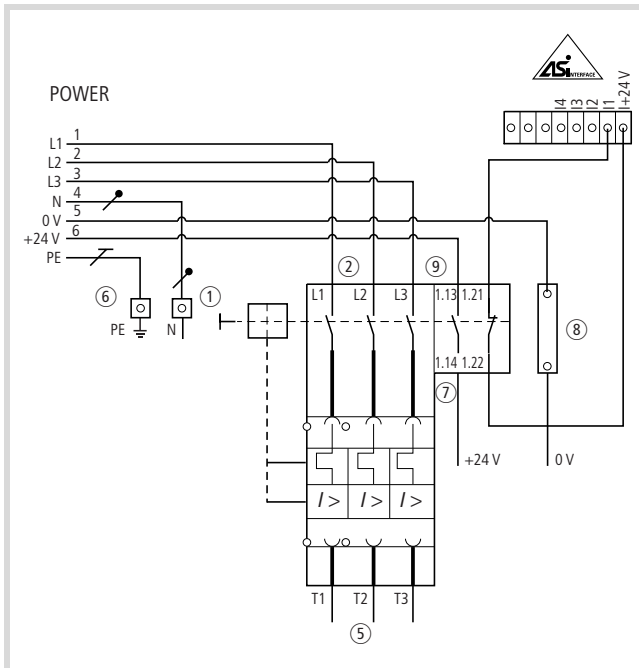

Figure 38: Wiring of disconnect control unit
- ▶ Feed a 7×2.5 or 7×4 mm² round cable (T1, T2, T3, N, PE, 24 V, 0 V) in to the busbar, fit the connectors and connect it as shown in figure 38.
- ▶ Fed the round cable(s) $5 \times 2.5/4/6$ mm² (L1, L2, L3, N, PE) and $2 \times 2.5/4/6$ mm² (24 V, 0 V) or alternatively $7 \times 2.5/4$ mm² (L1, L2, L3, N, PE, 24 V, 0 V) in to the busbar, fit the connectors and connect them as shown in figure 38.